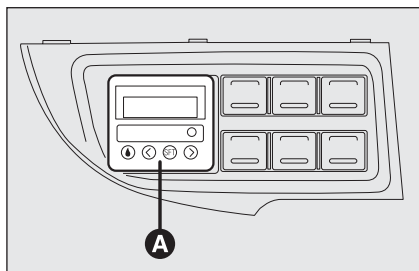

fig. 54
- ☐ digital timer **A**-fig. 54 to start the heater manually or to program staring time.